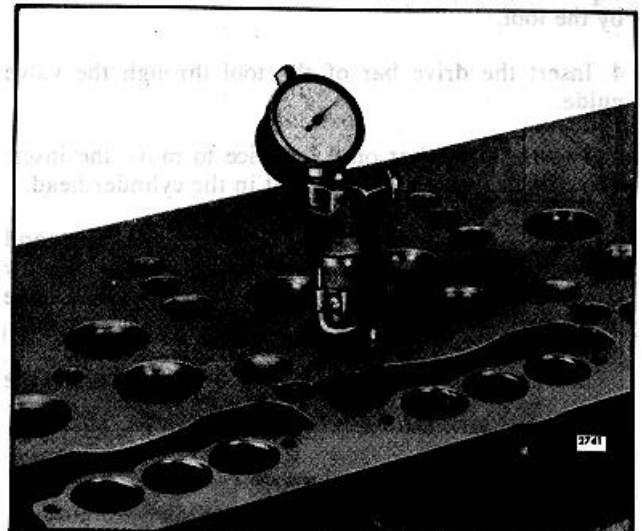

Fig. 13. Determining Concentricity of Valve Seat Insert with Dial Indicator
4. After grinding has been completed, clean the valve seat insert thoroughly with fuel oil and dry it with compressed air. Set the dial indicator J 8165-2 in position as shown in Fig. 13 and rotate it to determine the concentricity of each valve seat insert relative to the valve guide. If the runout exceeds .002 ", check for a bent valve guide before regrinding the insert.